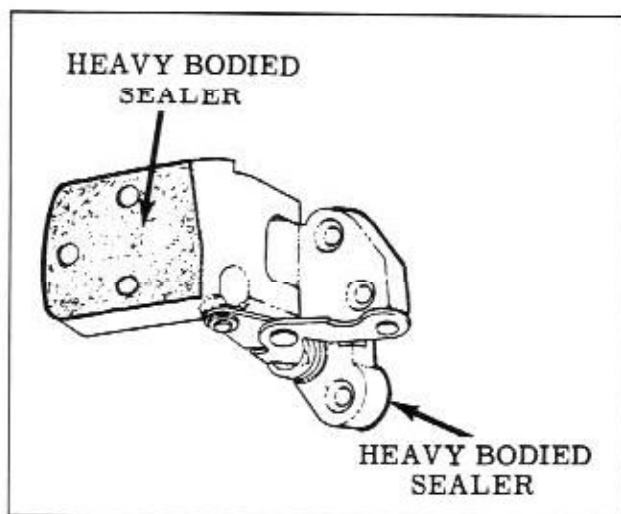

Fig. 15-37 Rear Door Hinge Assembly
2. Apply a coat of heavy bodied sealer to attaching surfaces of hinge straps or corresponding surfaces of door or body. (Fig. 15-37)